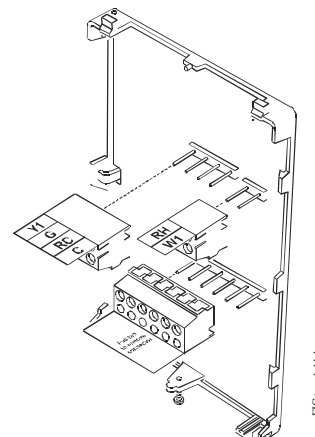

Figure 4: Removing the Screw Terminal Blocks
9. Pull the pull-tabs on each of the connectors and remove the screw terminal blocks as illustrated in Figure 4.